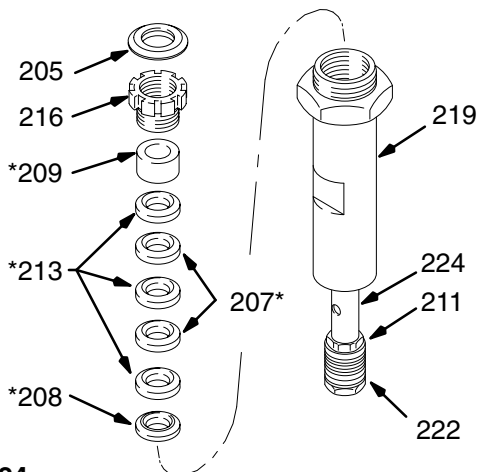

Fig. 24
2. Remove the plug (205). Unscrew the packing nut (216). See Fig. 24.
3. Tap the piston rod (224) down and then pull it out the bottom of the cylinder (219). See Fig. 24.
4. Remove the glands (*209, *208*) and v-packings (*207*, *213**) from the throat. See Fig. 24.
5. Clamp the flats of the piston rod (224) in a vise. Loosen the piston (222). Unscrew the nut (211) from the piston. Remove the glands (*210*, *214**) and packings (*212*, *206*, *203**) from the piston. See Fig. 24.